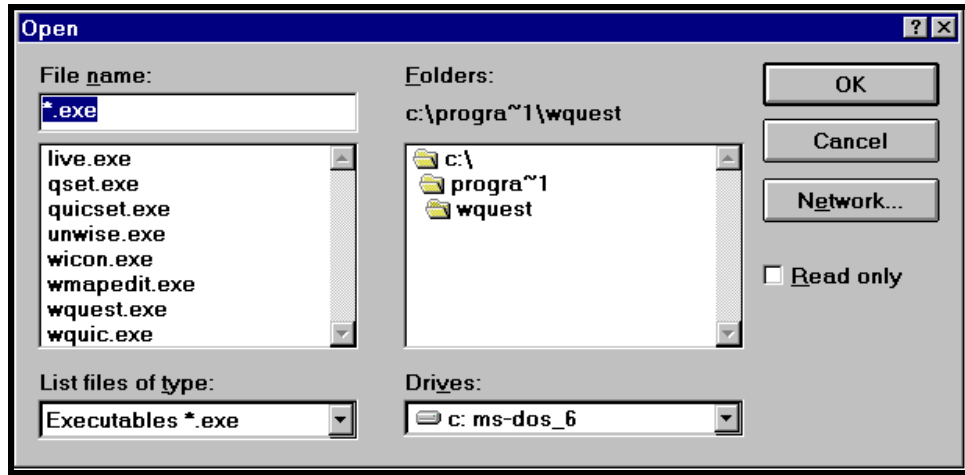

Figure 3-34a. Live Video Selection Browse Window
3. If you do not know the file path, then click on **Other**, then click on the **Browse** button. Search for the application file that will start the video capture software that is installed on the PC. The Browse screen is illustrated in Figure 3-34a.